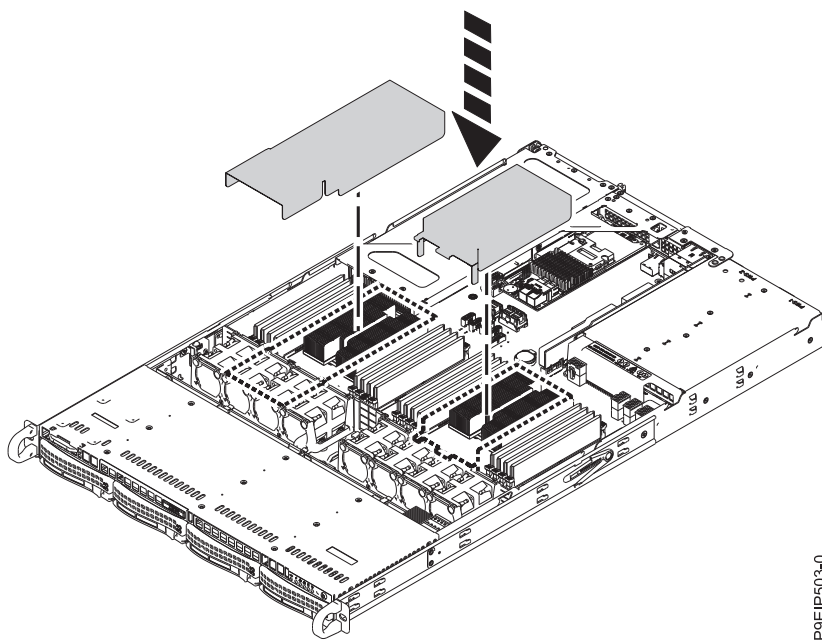

Figure 78. Installing the processor air baffle
11. Install the processor air baffle as shown in Figure 78. Insert the edge of the baffle into the fan support. Then, carefully press the baffle down into place.